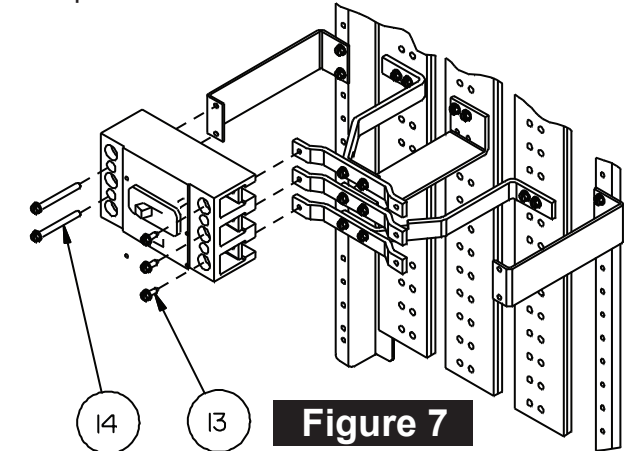

Figure 7
8. Refer to Figure 7: Install a circuit breaker by inserting one 1/4"-20 x 5/8" screw (Item 13) into each of the three contacts on the "ON"-side of the breaker and into the 0.228" diameter holes at the left end of the A, B & C-phase link bars and tighten. Insert two 1/4"-20 x 2-3/4" thread-forming screws (Item 14) into the two mounting holes at the "OFF"-side of the breaker and into the two 0.228" diameter holes in the QR mounting bracket and tighten. Torque all connections to the values as specified on the rear of the deadfront.